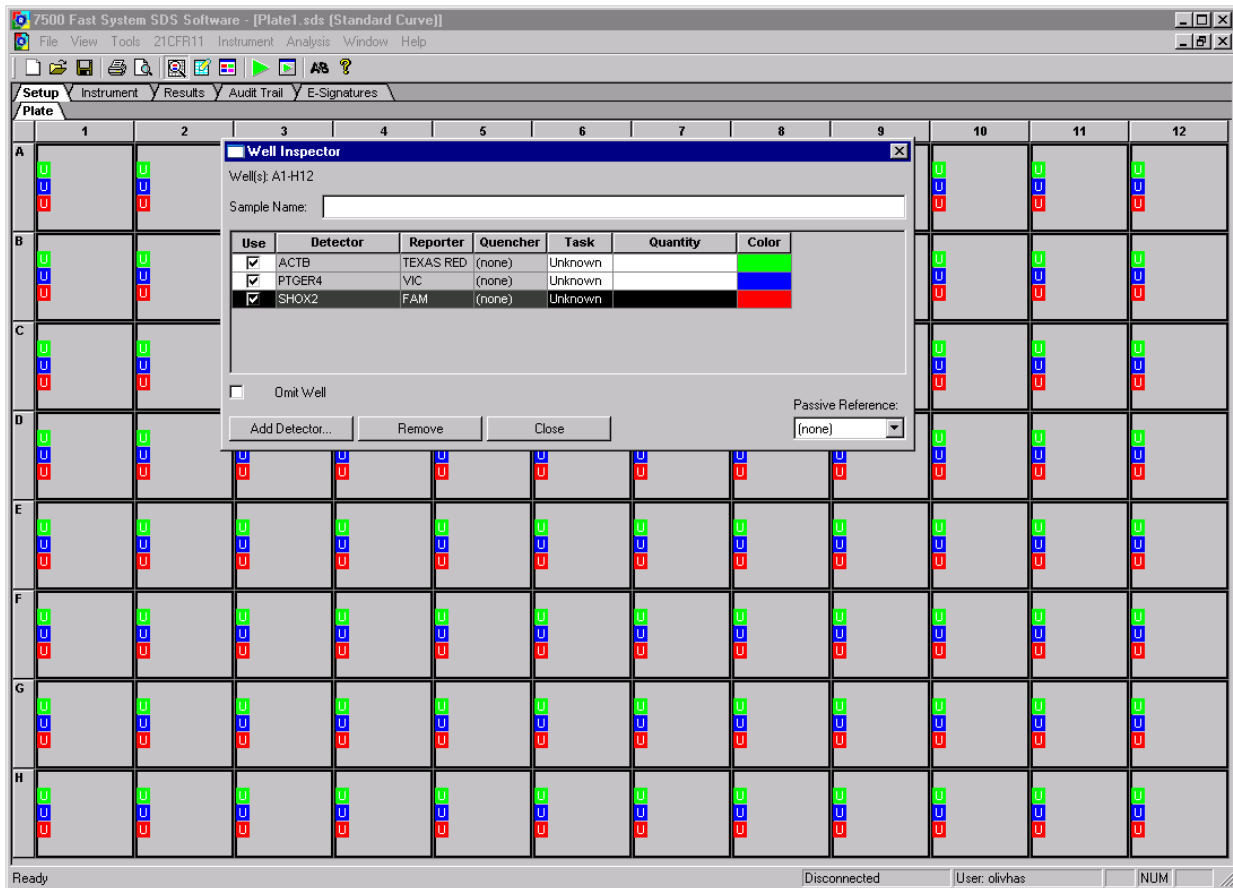

Figure 2: Screenshot after confirming settings in the 'Well Inspector' window.
- Confirm the Thermal Cycler Protocol settings according to Table 7 (see Figure 2).